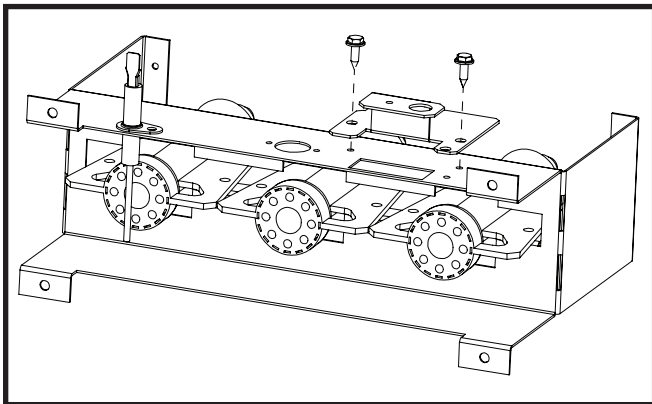
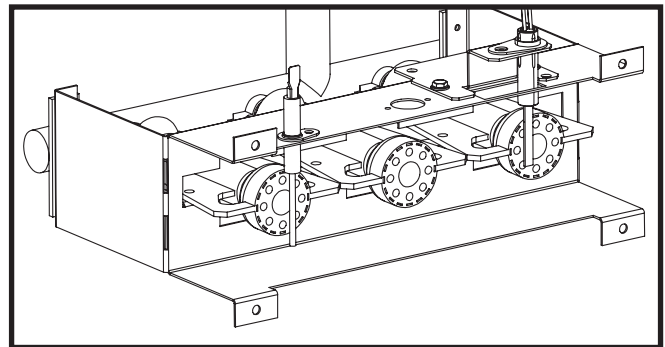

Figure 5. R8HE and R104HD
Figure 6. R8HE and R104HD
2. Fasten the igniter bracket with the (2) provided screws. See Figure 5.
3. Insert the new igniter in the igniter bracket, fasten with the (1) provided screw and re-attach the molex plug.
5. The assembly should look like Figure 6, the igniter parallel to the burner face.